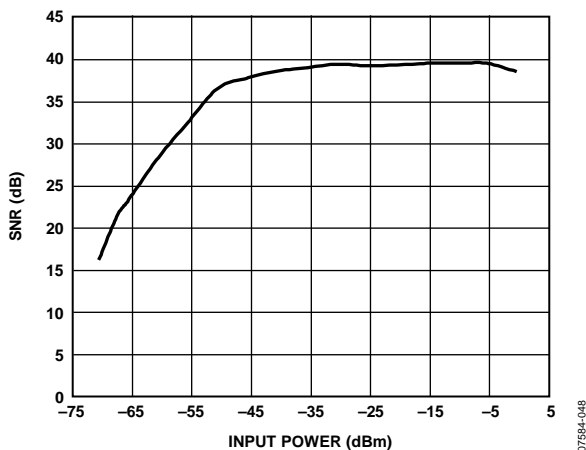
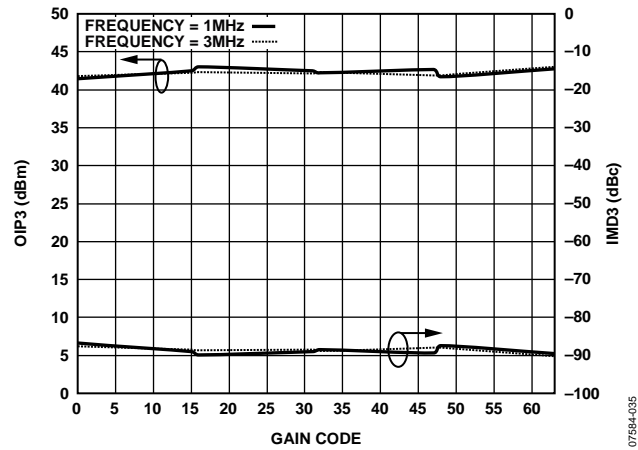
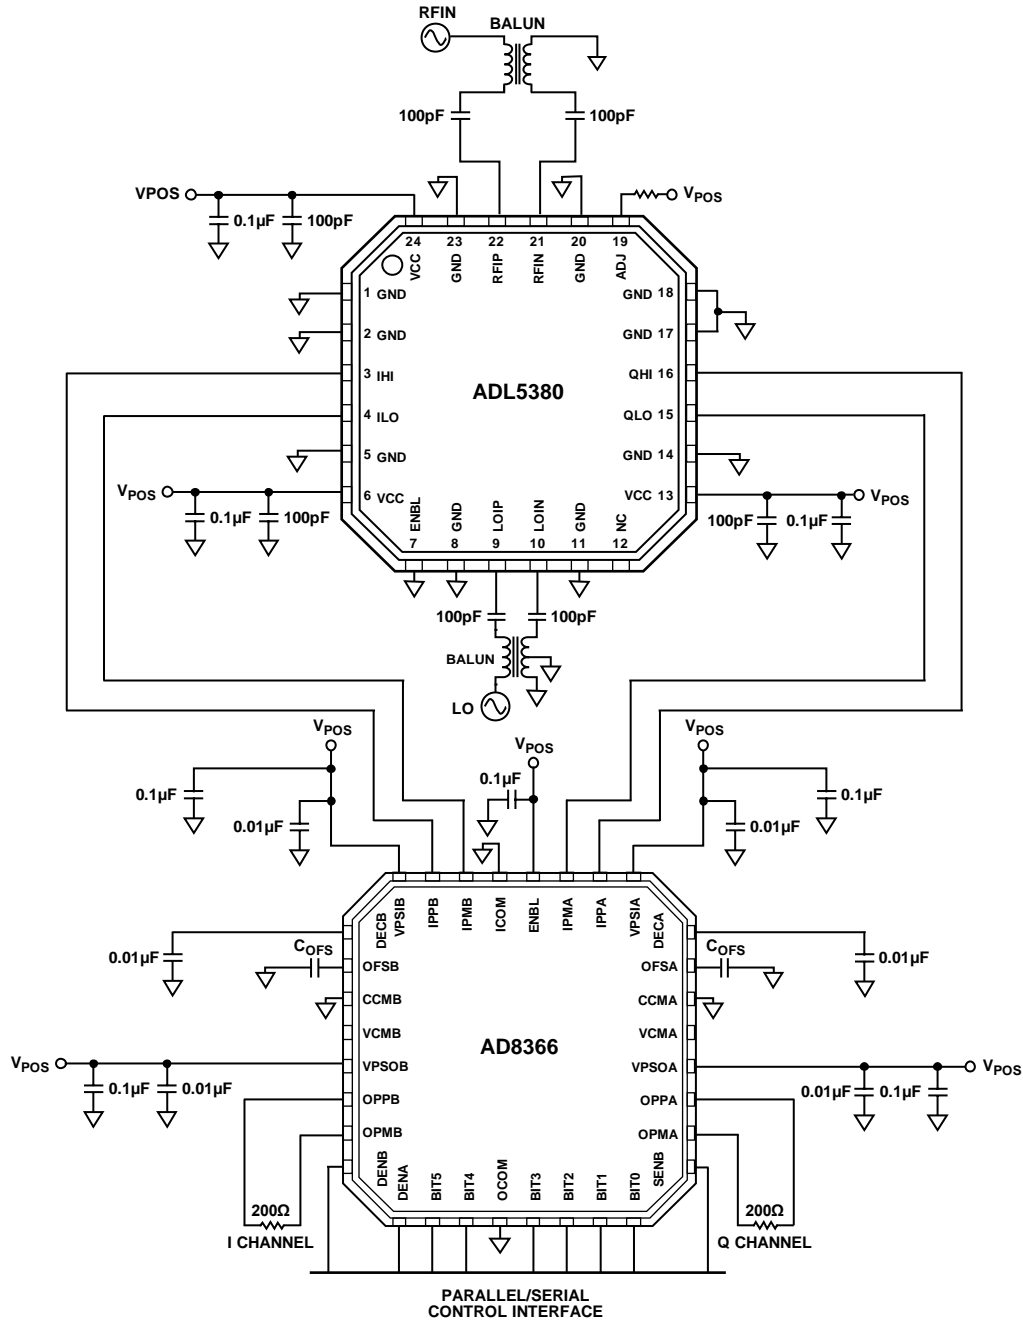

Figure 52. SNR vs. RF Input Power Level
Figure 55. OIP3 on Low Frequency, 2 V p-p Composite
Figure 56. ADL5380 and AD8366 Interface Block Diagram
An overall RF-to-baseband EVM performance was measured with the ADL5380 IQ demodulator preceding the AD8366, as shown in Figure 56. In this setup, no LC low-pass filters were used between the ADL5380 and AD8366. A 1900 MHz W-CDMA RF signal with a 3.84 MHz symbol rate was used. The local oscillator (LO) is set at 1900 MHz to obtain a zero IF baseband signal. The gain of the AD8366 is set to maximum gain (~20.25 dB). Figure 52 shows the SNR vs. the input power of the cascaded system for a 5 MHz analysis bandwidth. The broad input power range over which the system exhibits strong SNR performance reflects the superior dynamic range of the AD8366.
To measure the IMD3 data at low frequencies, wideband transformer baluns from North Hills Signal Processing Corp. were used, specifically the 0301BB and the 0520BB. Figure 55 shows the IMD3 performance vs. frequency for a 2 V p-p composite output. The IMD3 performance was also measured for the combined ADL5380 and AD8366 system, as shown in Figure 56, with an FFT spectrum analyzer. An FFT spectrum analyzer works very similar to a typical ADC, the input signal is digitized at a high sampling rate that is then passed through an antialiasing filter. The resulting signal is transformed to the frequency domain using fast Fourier transforms (FFT).